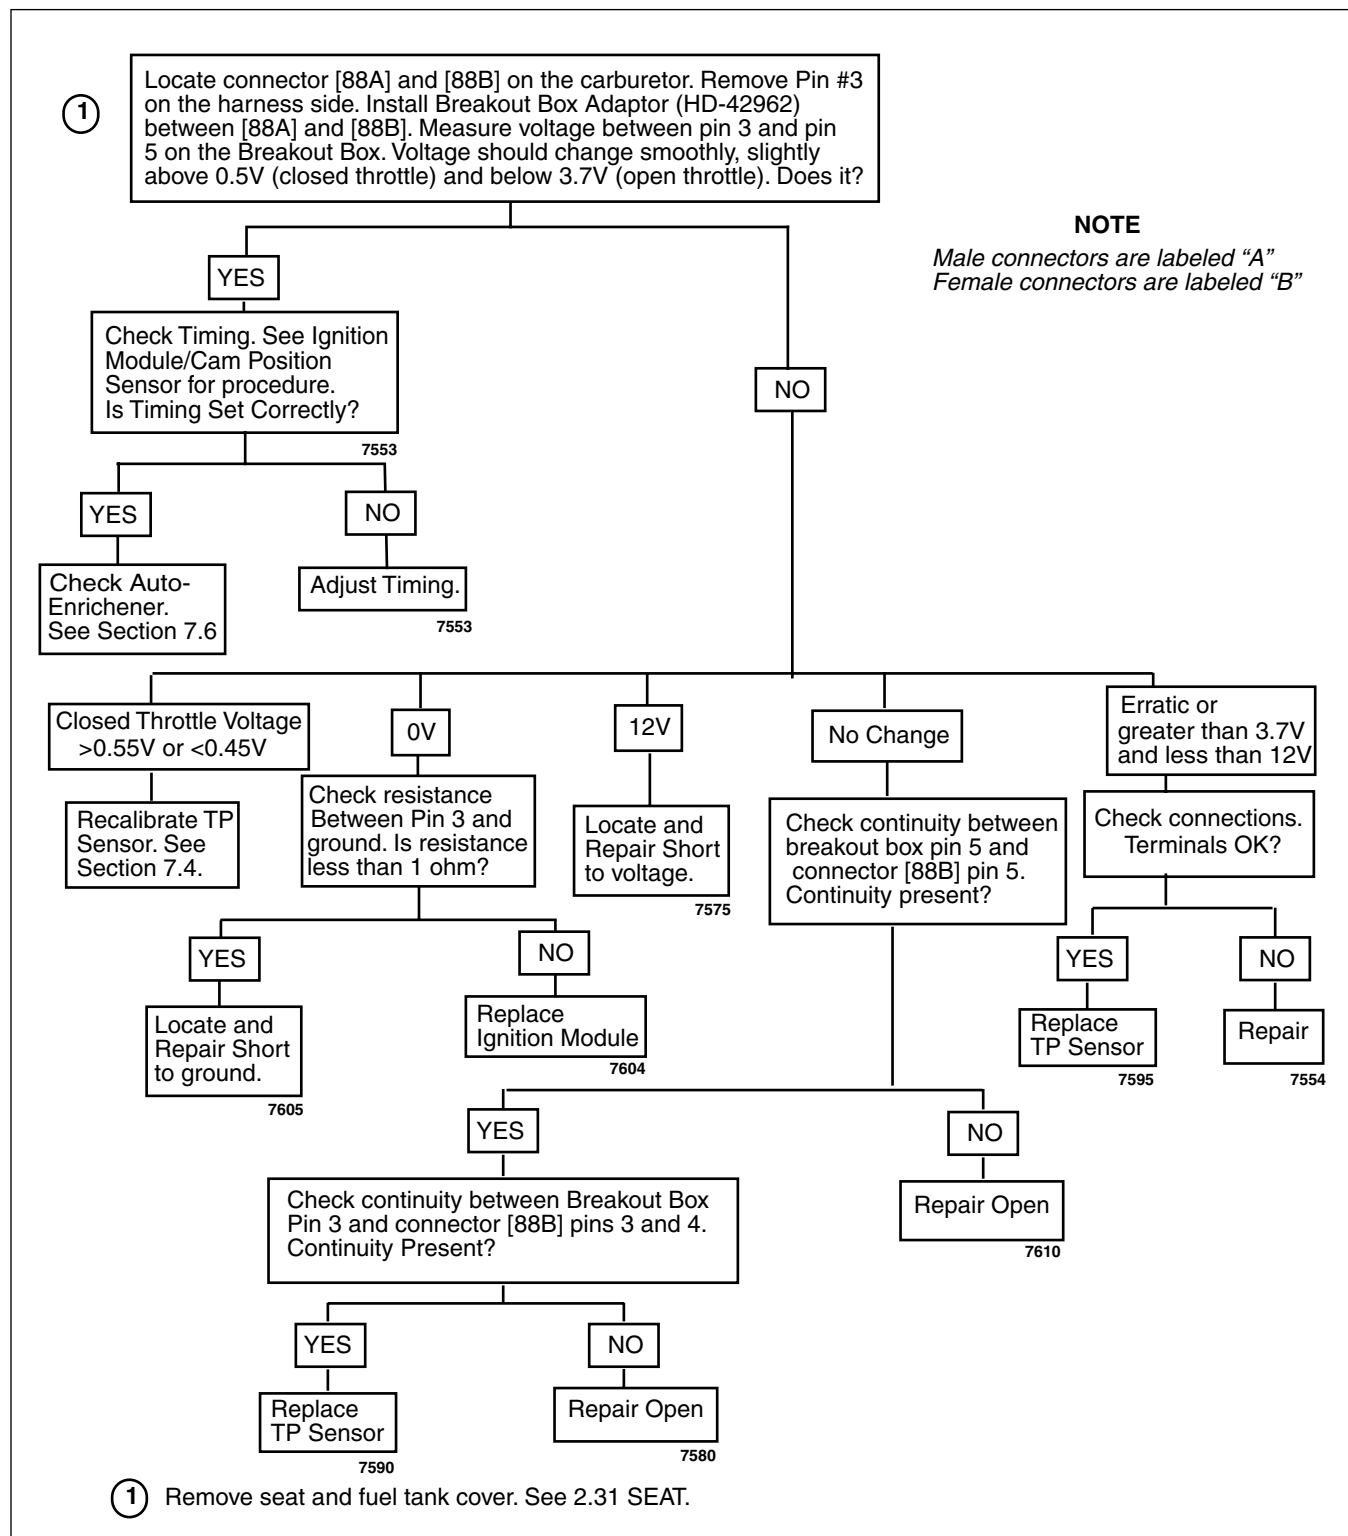

Figure 2. Drivability Troubleshooting
- f. Turn ignition switch to ON. Using a multimeter, measure voltage between pin 3 (V/W) and pin 5 (BK).
- h. Completely open and close the throttle by rotating the throttle control through its full range of motion. Wide Open Throttle (WOT) should not exceed 3.7V and reading should increase consistently as throttle is opened. If the voltage reading is erratic or the voltage reading at WOT exceeds 3.7V see Figure 2. for diagnostic testing.